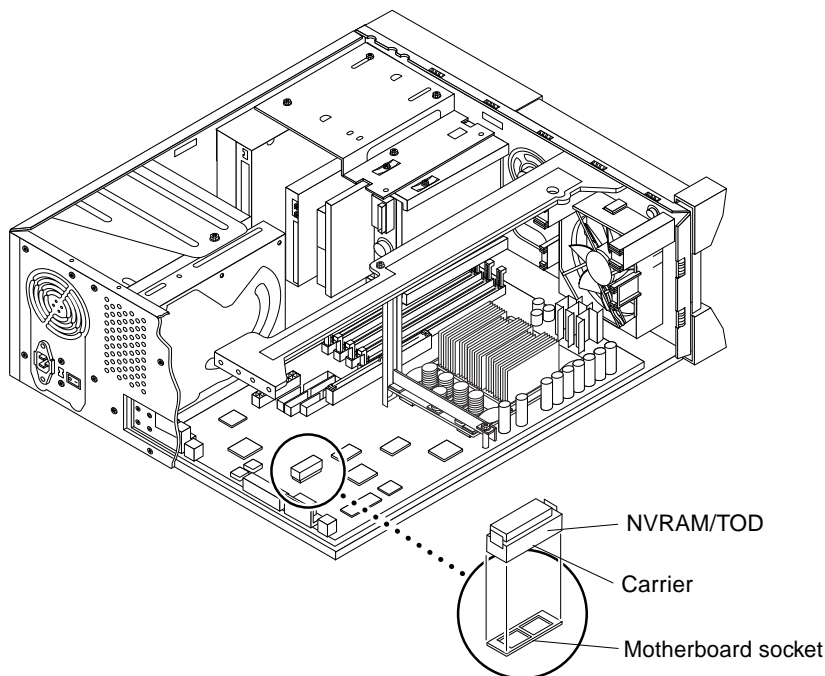

FIGURE 8-2 Removing and Replacing the NVRAM/TOD
2. **Remove the NVRAM/TOD as follows (FIGURE 8-2):**
1. Replace the NVRAM/TOD as follows (FIGURE 8-2):